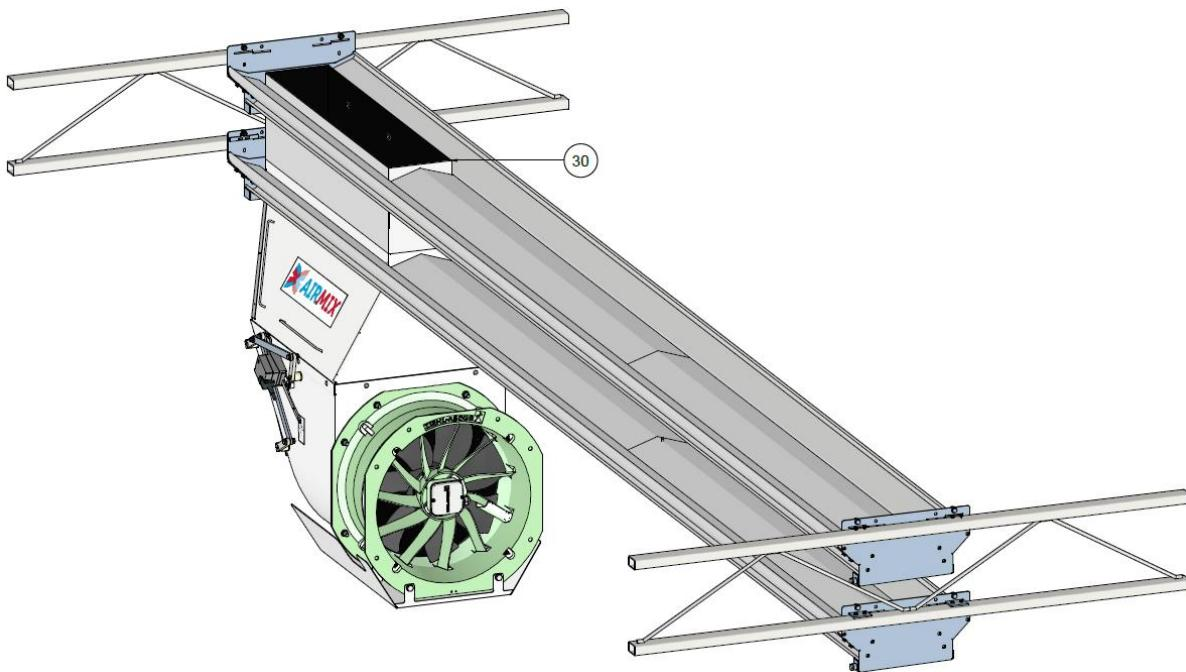

Figure 11 Installing the extension
- For installation, see figures in the chapter “Installing the Airmix model G” and Figure 11;
- Fit a mounting strip (3) with an M6x10 set screw (4) in the groove of the profile (2), the first M8 tapped hole 210mm from the end of the profile; do this for two profiles.
- Insert a plug (20) in the end plate; do this for two end plates;
- Attach an end plate (5) to a lattice (1) with two Slide-in brackets (11). Attach the Slide-in brackets to the end plate with two stainless steel bolts m8x16 (9), four m8 washers (10) and two self-locking nuts m8 (12).
- Put two metal screws with tapping point 4,8x13 (6) through each Slide-in bracket (11) and into the lattice (1);
- Attach a second end plate directly opposite to the first end plate on the next lattice with two metal screws with tapping point 4,8x13 (6);
- Mount a profile (2) between two end plates with six 4.8x16 self-tapping screws (12);
- Fit two cover plates, lying on each other (7), in the profile;
- Place the extension (19) on the Airmix housing (see Figure 11);
- Attach the extension with six M8x16 bolts (10) and six M8 fender washers (9);
- Put the cover plates in position and attach to each other with a metal screws with tapping point 4,8x13 (6);